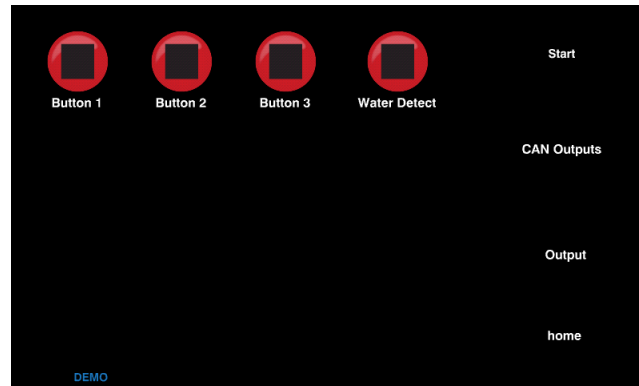

Figure 128. TS Input Screen
- Select corresponding output to be tested. See Table 76 and Figure 128.